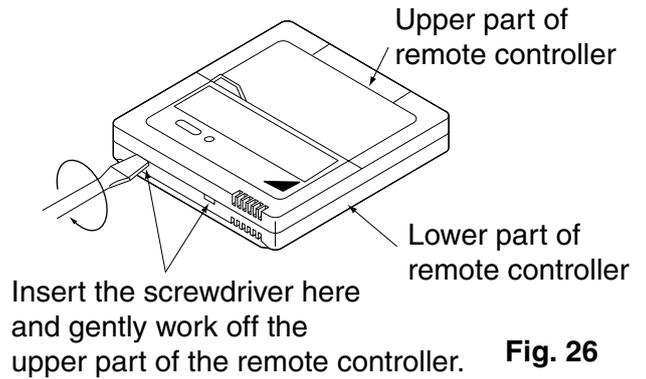

Fig. 26
- (1) Insert a ⊖ screwdriver into the recess between the upper and lower part of remote controller and, working from the 2 positions, pry off the upper part. The remote controller PC board is attached to the upper part of the remote controller. (Refer to Fig. 26)